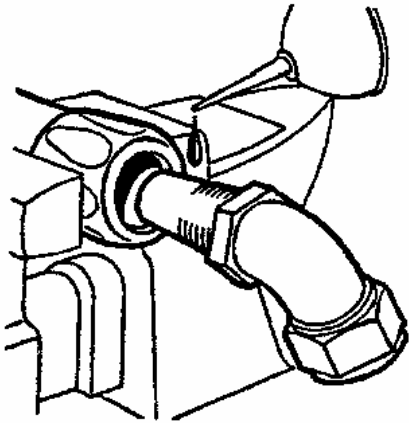

Figure 11. Assembly Lubrication for Aeroquip and Deutsch Fittings ⁰⁰⁴⁰¹⁶
(1) On Stratoflex fitting, lubricate inside bore of hose and outside diameter of sleeve.
(2) On Aeroquip and Deutsch fittings, lubricate inside bore of hose and nipple threads (Figure 11).
(1) On Stratoflex fittings, lubricate inside bore of hose and outside diameter of sleeve.
(2) For Aeroquip and Deutsch fittings, lubricate inside bore of hose and nipple threads (Figure 11).